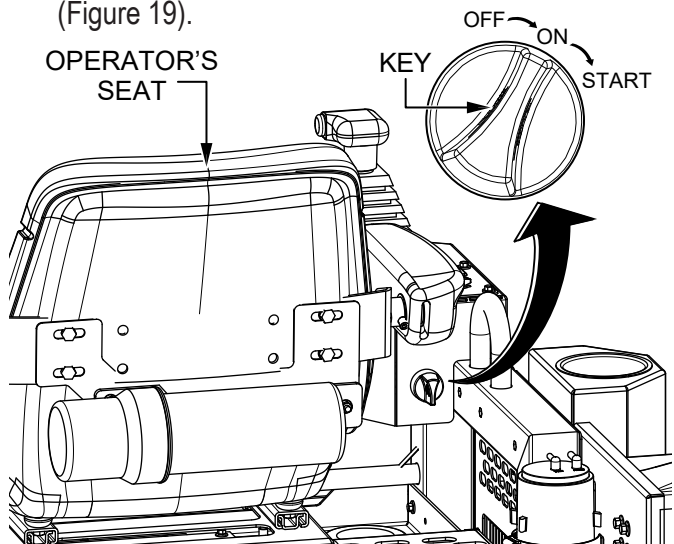
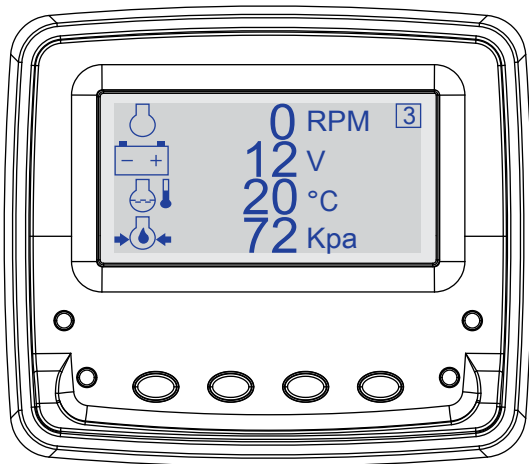

Figure 19. Ignition Key Switch
Figure 20. Diagnostic Display (Key Switch ON)
2. Insert the **ignition key** into the **ignition switch** (Figure 19).
- Turn the ignition key **clockwise** to the **ON** position (Figure 19). The **diagnostic display** will turn on as shown in Figure 20.